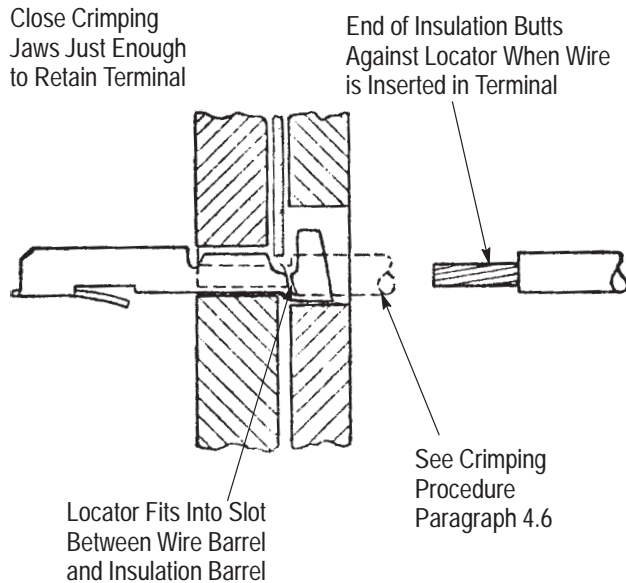

Figure 3
2. Place the terminal in the tool so that the locator fits in the slot between the terminal insulation barrel and the wire barrel. See Figure 3.
3. Close the handles until the crimping jaws close just enough to retain the terminal. See Figure 3.